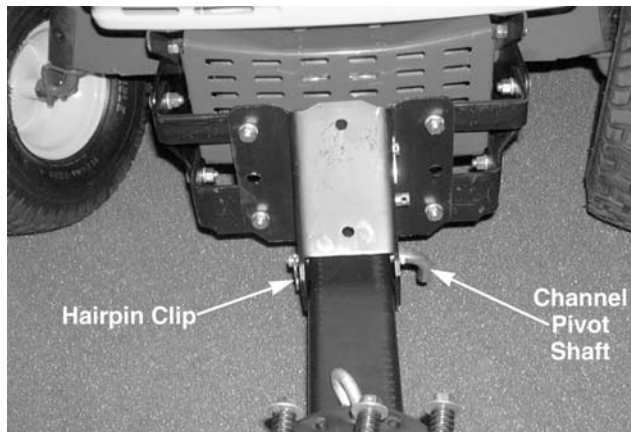

Figure 12-76.
14. Slide flat washer onto channel pivot shaft and insert the shaft through the holes in the pivot support bracket and push bar channel. See Figure 12-76.
15. Secure the channel pivot shaft with a hairpin clip. See Figure 12-76.